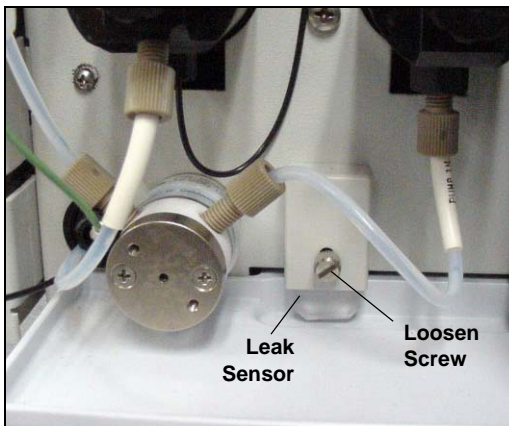

Figure 5-18. Leak Sensor
3. Loosen the screw on the front of the leak sensor (see Figure 5-18). **Note:** The screw remains attached to the sensor.